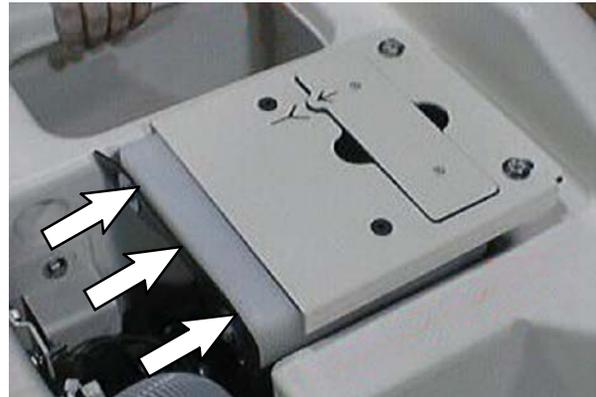

FIG. 5
- Insert the vacuum fan assembly next to the recovery tank, pull the vacuum fan assembly tight to the solution tank and elbow tube, and reinstall the hardware to secure the vacuum fan assembly into place. Refer to Fig. 5.